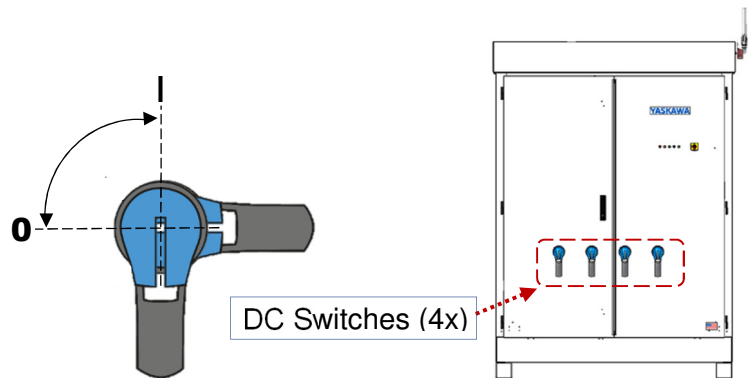

Fig. 5-8. DC DISCONNECT SWITCHES ON INVERTER
Make sure the DC disconnect switch handles are all in the OFF (0) position. The DC disconnect switches are load-break rated. See Figure 5-8.